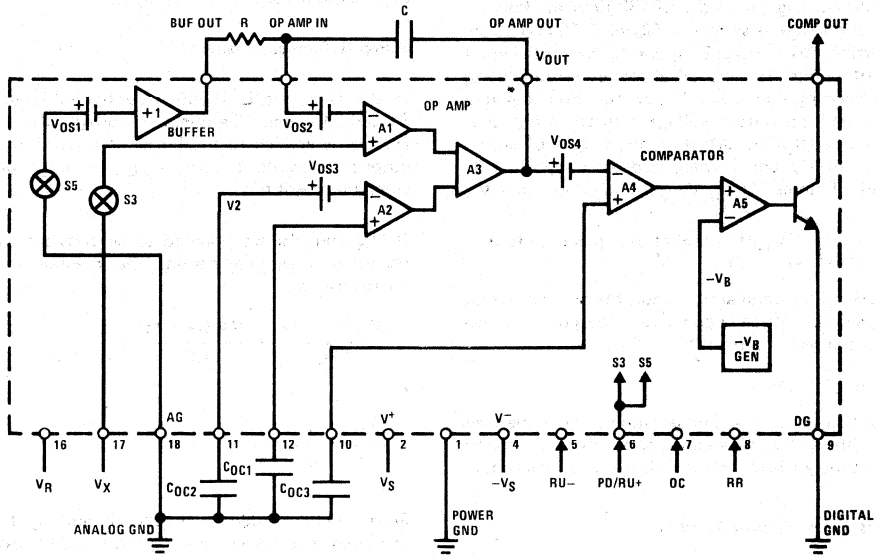

FIGURE 2. Polarity Determination Circuit or Ramp Unknown Circuit for  $V_X \geq 0$
**Polarity Determination** (Figure 2)
The simplified diagram of the LF13300 in the Polarity Determination state is shown in Figure 2. S5 and S3 are closed during this period. S5 grounds the buffer input and  $V_X$  (the unknown voltage) is applied through S3 to the non-inverting input of A1. The equation that describes the op amp output voltage is given in Figure 2. When  $V_X$  is applied to A1 at  $t_1$ , the output of the op amp slews to  $V_X$  and is integrated until  $t_2$ , when S3 opens and S4 closes. At  $t_2$ ,  $V_{OUT}$  slews down by  $-V_X$
**Ramp Unknown** (Figures 2 and 3)
In the Ramp Unknown state, if  $V_X \geq 0$ , S3 and S5 are closed, as shown in Figure 2, and  $V_X$  is applied to the